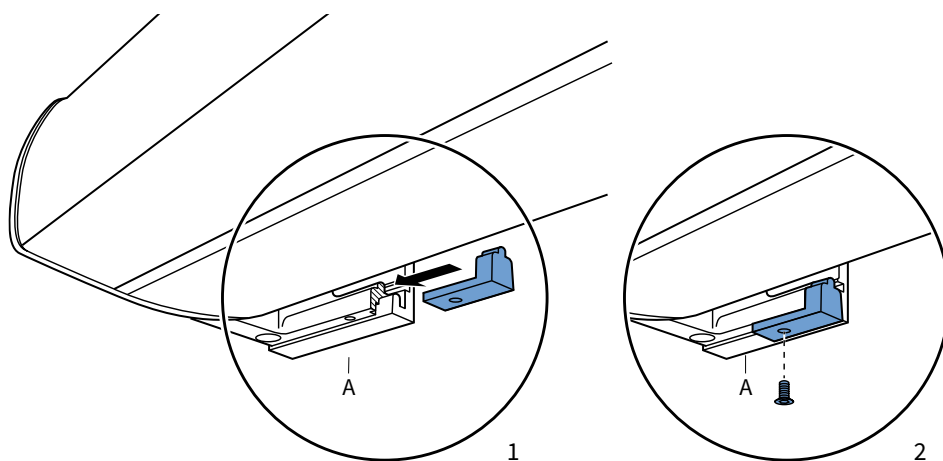

fig. 2.4 Detail locking block
1. Slide the locking block over the wall support (A). View figure 2.4.